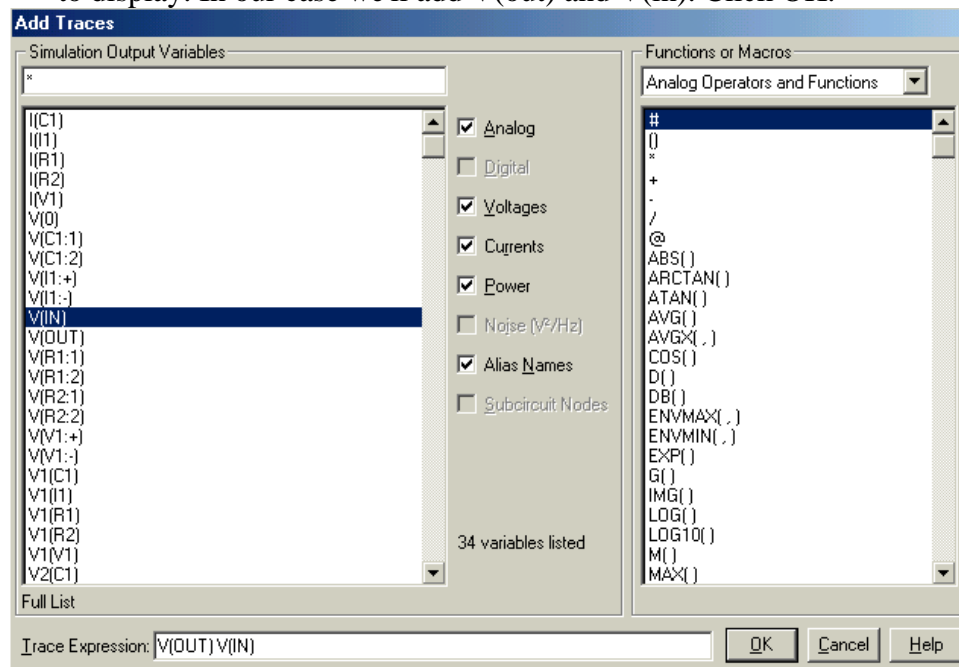

Figure 9: Add Traces window
9. When adding traces you can perform mathematical calculations on the traces, as indicated in the Add Trace Window to the right of Figure 9.